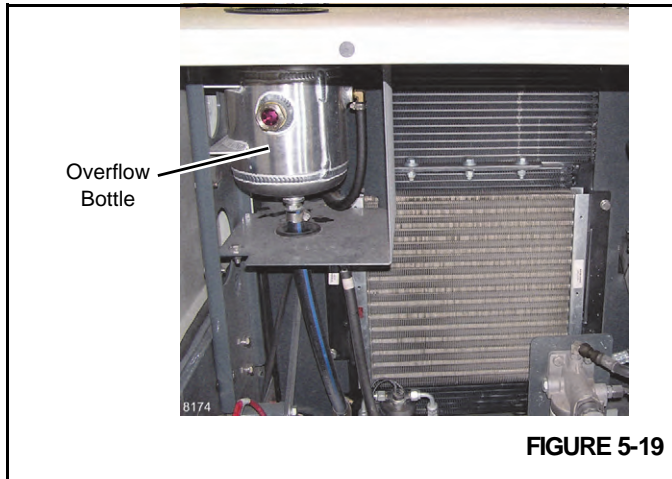

FIGURE 5-19
2. Check that the overflow bottle (Figure 5-19) is at least half full. If coolant is low, fill the overflow bottle half way with a 50/50 mixture of glycol antifreeze and water. Do not add only water as this could cause rust to form in the radiator and engine.